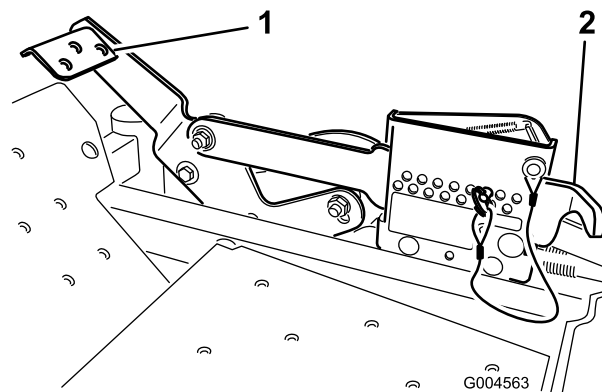

Figure 16
2. Press on the lift assist lever while pulling up on the height-of-cut lever (Figure 16).